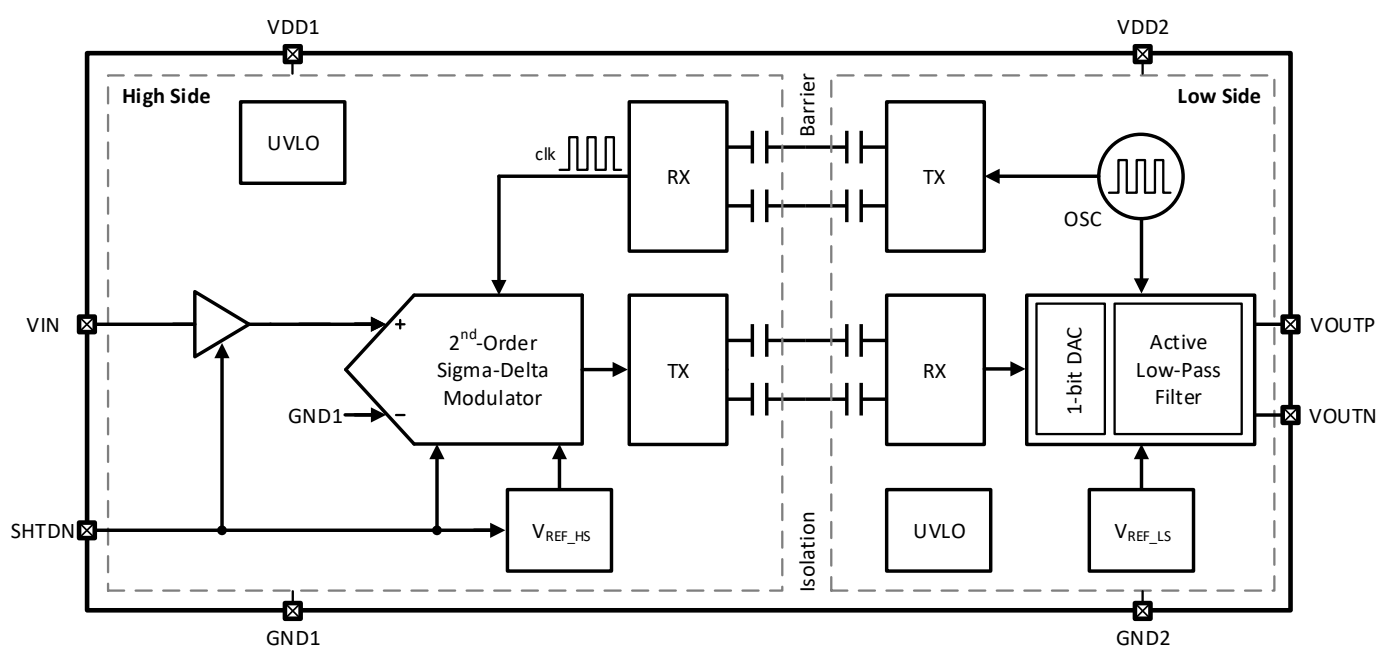

Figure 9-1 Functional Block Diagram of CA-IS1311G-Q1
The CA-IS1311G-Q1 devices are high-precision reinforced isolated amplifiers designed for voltage sensing. The functional block diagram of this device is shown in Figure 9-1. At high side, the high input-impedance buffer drives a 2nd-order Sigma-Delta ($\Sigma\Delta$) modulator. This modulator converts the analog signal to a digital bitstream. For transmission across the SiO₂-based isolation barrier, the digital stream is further modulated with a high-frequency carrier using a simple on-off keying (OOK) modulation scheme. The receiver (RX) recovers the modulated signal to the original digital bitstream at low side. After processed by a 1-bit digital-to-analog converter (DAC), the digital bitstream is sent to an active low-pass filter to produce the analog output. For synchronization of the whole chip, the clock is generated at low side and sent back to high side ensuring that all clocks come from one source.